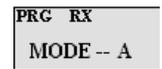

Figure 5
6. The LCD will display "PRGRX MODE-A" for programming the **RX Mode**. (See Figure 5) Press the "PRI" key to toggle between "A", "D", or "M". Select "A" press the "ENT" key.